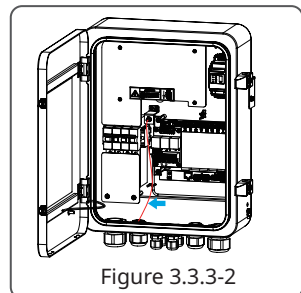

Figure 3.3.3-2
(2) Fix the wall mounting bracket on the wall with expansion bolts in accessory bag, refer to Figure 3.3.3-2
(As shown in figure 3.3.3-2):